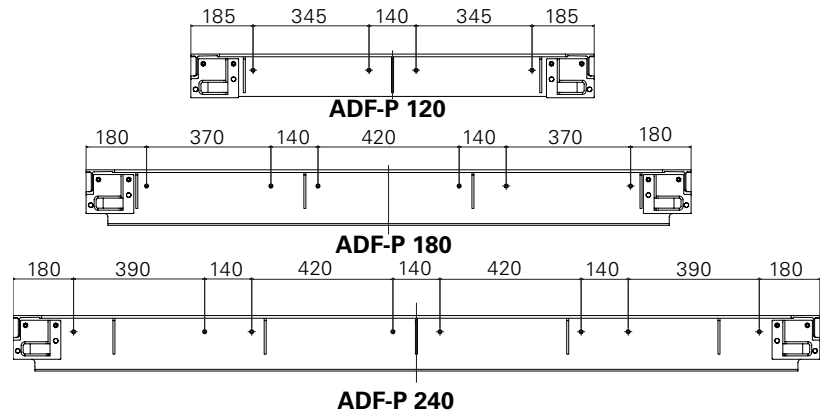

Fig. A2.13
2. Use torx screw 6 x 40 mm **(27.1)** (article no. 024540) to secure the ADF-P nailing insert **(27)** with filler beam ADF **(8)**. See (Tab. A2.01) for the no. of torx screws and (Fig. A2.13) for 7 mm dia hole location.